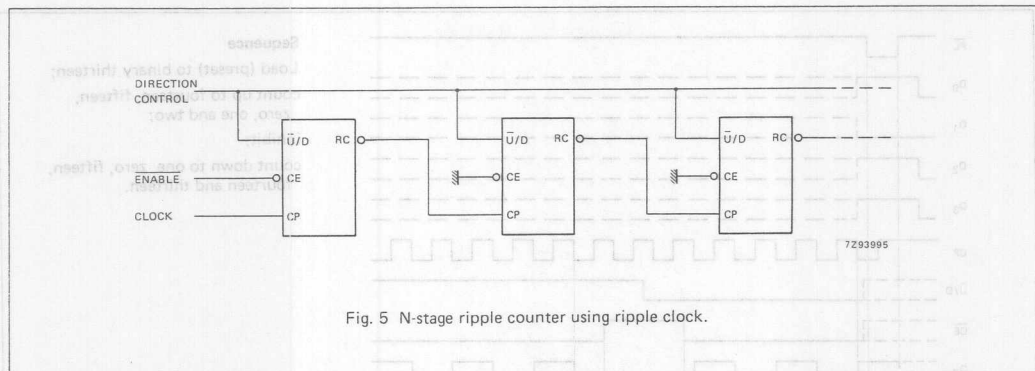
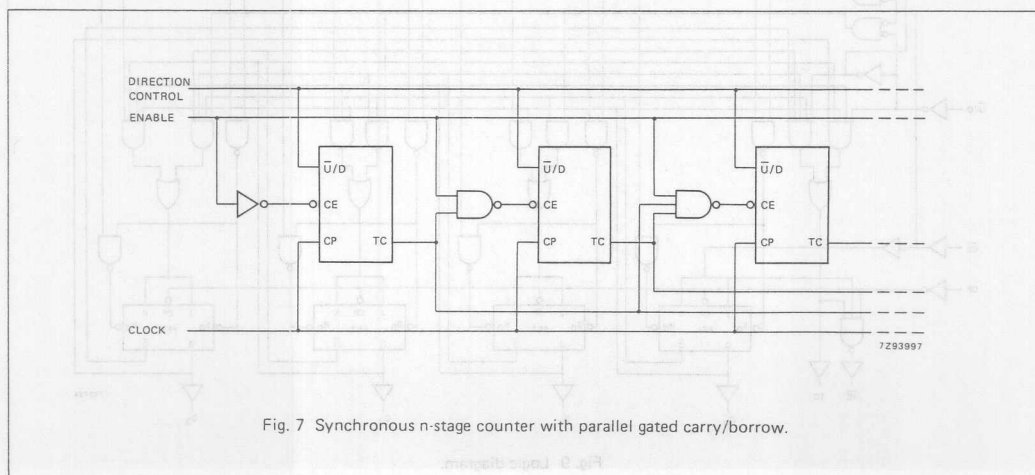

Fig. 5 N-stage ripple counter using ripple clock.
Fig. 7 Synchronous n-stage counter with parallel gated carry/borrow.
Overflow/underflow indications are provided by two types of outputs, the terminal count (TC) and ripple clock (RC). The TC output is normally LOW and goes HIGH when a circuit reaches zero in the count-down mode or reaches "15" in the count-up mode. The TC output will remain HIGH until a state change occurs, either by counting or presetting, or until U/D is changed. Do not use the TC output as a clock signal because it is subject to decoding spikes. The TC signal is used internally to enable the RC output. When TC is HIGH and CE is LOW, the RC output follows the clock pulse (CP). This feature simplifies the design of multistage counters as shown in Figs 5 and 6.
In Fig. 5, each RC output is used as the clock input to the next higher stage. It is only necessary to inhibit the first stage to prevent counting in all stages, since a HIGH on CE inhibits the RC output pulse as indicated in the function table. The timing skew between state changes in the first and last stages is represented by the cumulative delay of the clock as it ripples through the preceding stages. This can be a disadvantage of this configuration in some applications.
In Fig. 7, the configuration shown avoids ripple delays and their associated restrictions. Combining the TC signals from all the preceding stages forms the CE input for a given stage. An enable must be included in each carry gate in order to inhibit counting. The TC output of a given stage is not affected by its own CE signal therefore the simple inhibit scheme of Figs 5 and 6 does not apply.